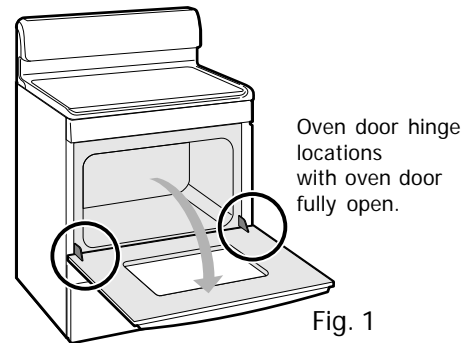

Fig. 1
1. Open oven door completely (horizontal with floor - See Fig. 1).
3. With both door hinge arms in place, open the oven door (horizontal with floor - See Fig. 1).